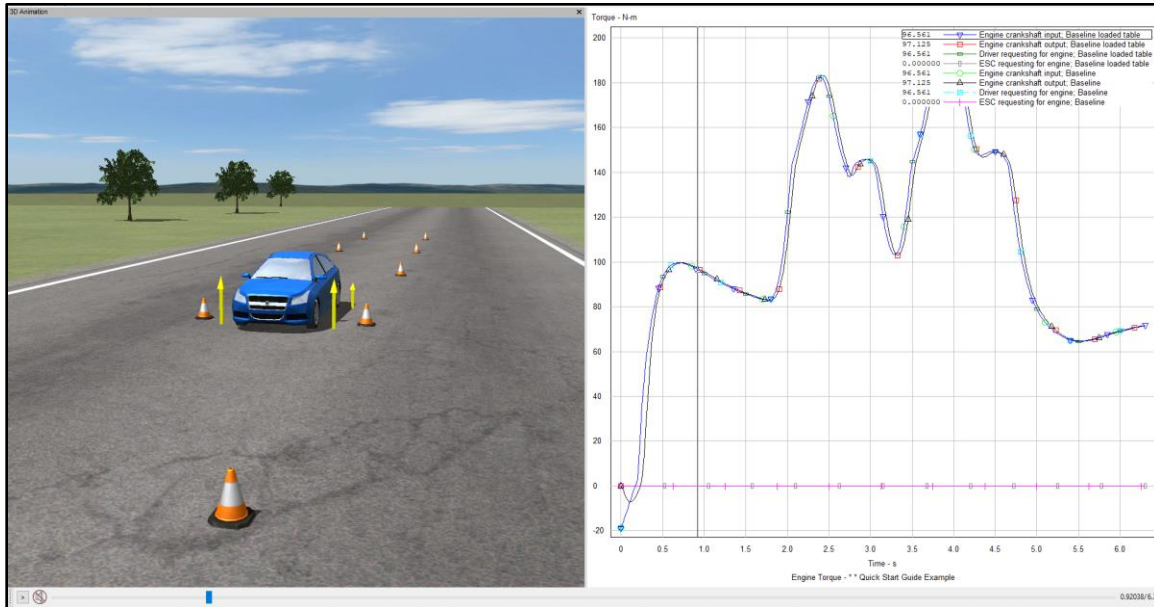

Figure 11: Comparison of the Baseline example with VS Table data and standard shipped data
Once the VS Table Engine Map data, Crankshaft Spin Inertia, and Engine Idle Speed have been confirmed, the output Animation and Plots of the Baseline example with VS Table data can be seen and compared with the standard Baseline example from the shipped data (22) (Figure 11)
This plot output comparison of the VS Browser Engine Map versus the VS Table Engine Map data in Figure 11 is the final confirmation to assure that the Engine Map data in this example were correctly converted from .csv data to VS Table data to be used in the CarSim simulation example.